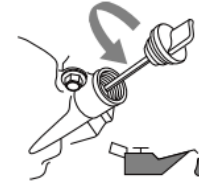

Figure 5-1
9. See Figure 5-1. Remove the oil drain plug and wipe the dipstick clean.